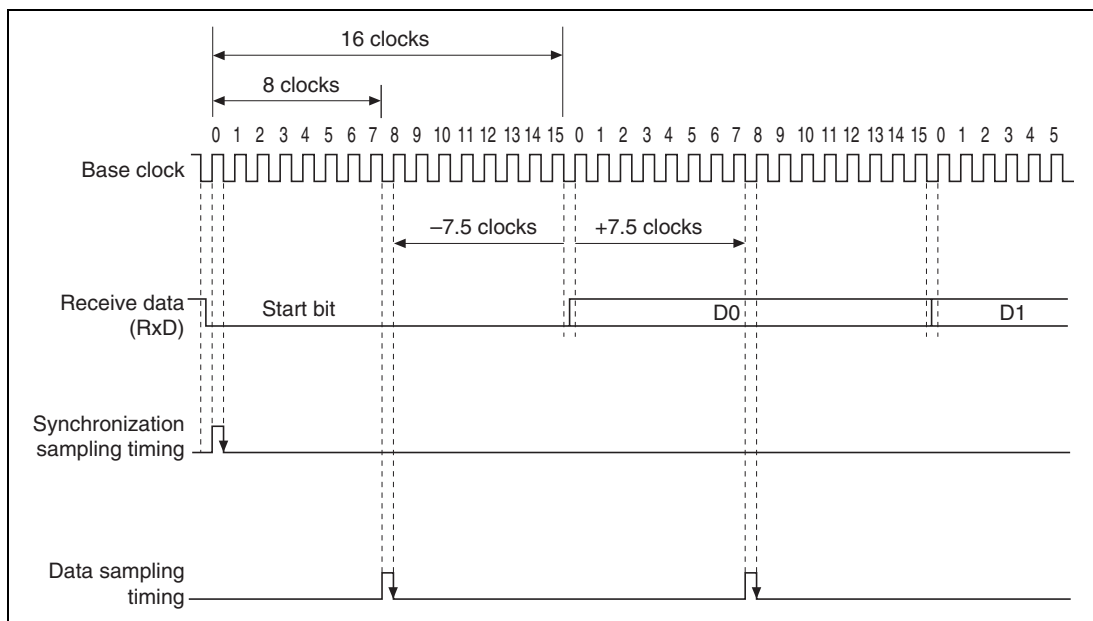

**Figure 15.25 Receive Data Sampling Timing in Asynchronous Mode**
**Receive Data Sampling Timing and Receive Margin in Asynchronous Mode:** The SCI operates on a base clock with a frequency of 16 times the bit rate. In reception, the SCI synchronizes internally with the fall of the start bit, which it samples on the base clock. Receive data is latched at the rising edge of the eighth base clock pulse. The timing is shown in figure 15.25.